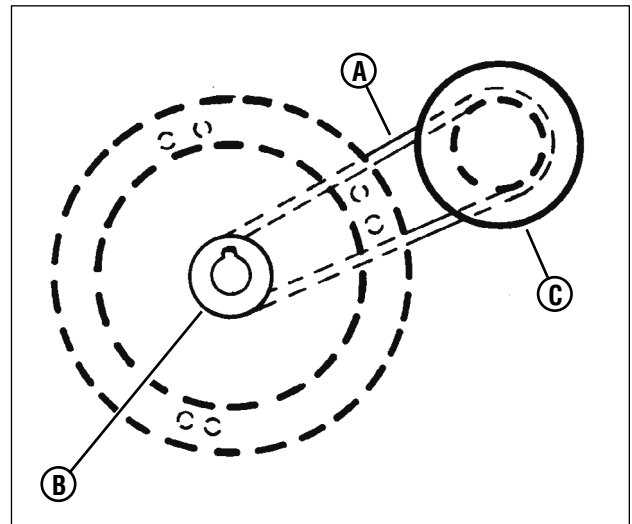

Figure 35: Engine drive belt routing
On self-propelled mowers, the engine belt (**A**, **Figure 35**) transmits power from the engine pulley (**B**) to the drive disc (**C**). The drive disc powers the poly-v belt, which engages the transmission that powers the rear wheels. Should these belts become worn, they could cause slippage, which would impair mower performance. The condition of the engine belt and poly-v belt should be checked after every 25 hours of mower operation.
2. Note the belt routing (**Figure 35**). There is no idler pulley on these models to disconnect.